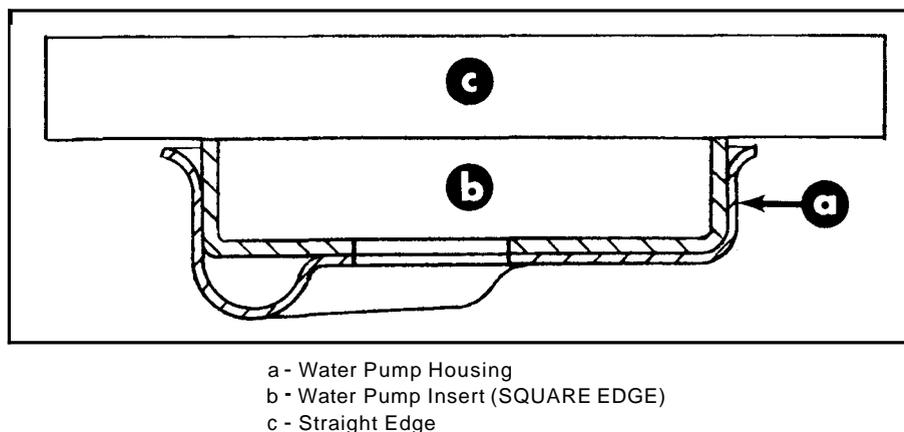

Figure 3. Checking Position of Water Pump Insert
- 2) Water pump assemblies with a SQUARE EDGE insert also should be checked with a straight edge (Figure 3) to make certain that the insert is not cocked in the housing.